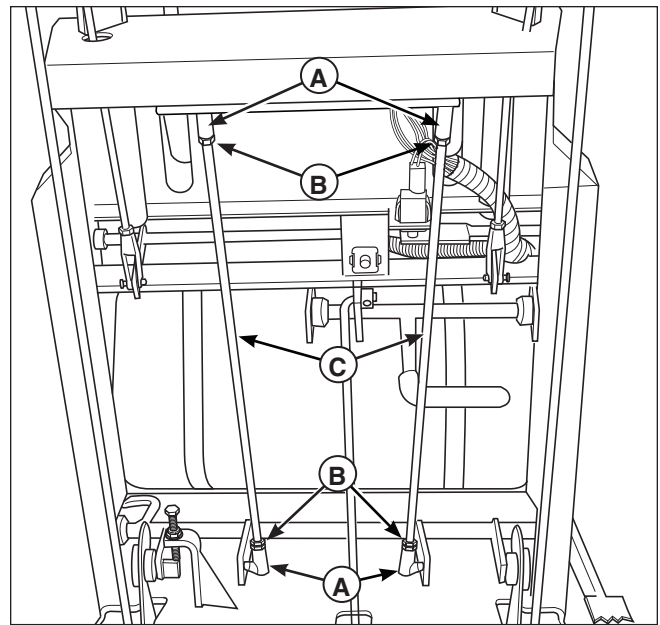

Figure 20. Neutral Adjustment
2. There are two jam nuts (B, Figure 20) on each linkage rod (C). Loosen the jam nuts on both linkage rods and turn the linkage rods evenly to adjust. If the machine creeps forward, turn the rods COUNTER-CLOCKWISE (while standing at the rear of the machine, looking down), if the machine creeps backward, turn the rods CLOCKWISE.
3. Lock the jam nuts (B) against the ball studs (A) when neutral is achieved.